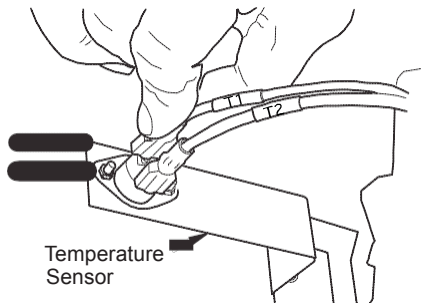

Figure 11 - Temperature Sensor Wires
11. Connect two black and yellow wires (female ports) marked T1 and T2 with the two male ports on the temperature sensor (see Figure 11).